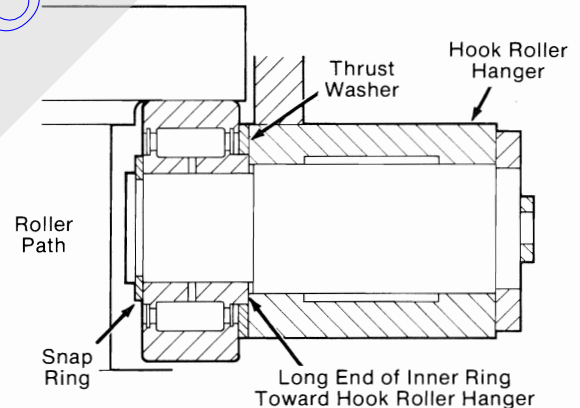

Figure 2 Hook Roller With Snap Ring (SC200 and 4100W)
1. If the thrust washers have grease grooves, the grooves must be toward the hook rollers (see Figures 2 and 3).
4. Models SC200 and 4100W — **Bearing-type hook rollers retained on the shafts with a snap ring** (see Figure 2) must have the long end of the inner rings toward the hook roller hanger.